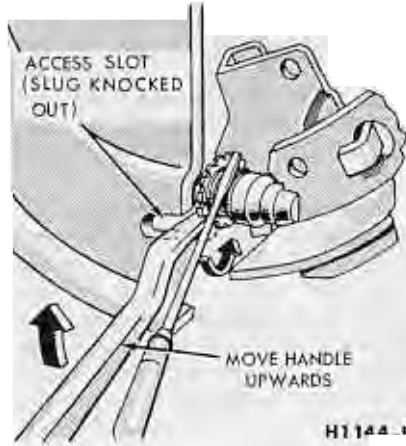

FIG. 15—Backing Off Brake Adjustment
2. Remove the drum. If the drum will not come off, knock the access slug out of the brake carrier plate, using a punch. Insert a narrow screwdriver through the slot and disengage the adjusting lever from the adjusting screw. While holding the adjusting lever away from the screw, back off the adjusting screw with the brake adjusting tool (Fig. 15). Be very careful not to burr, chip, or damage the notches in the adjusting screws; otherwise the self-adjusting mechanism will not function properly.
hole in the carrier plate, and disengage the adjusting lever from the adjusting screw. While holding the adjusting lever away from the adjusting screw, back off the adjusting screw with the brake adjusting tool (Fig. 15). Be very careful not to burr, chip or damage the notches in the adjusting screw; otherwise, the self-adjusting mechanism will not function properly.